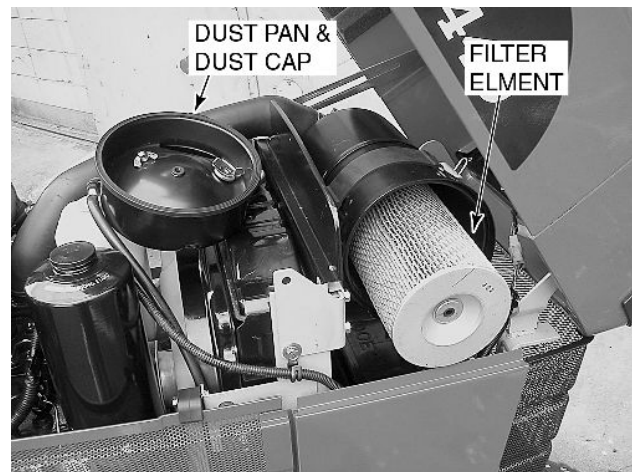

Figure 54 - Air Cleaner—Disassembled
Checking element : Check the air cleaner element and dust pan for cleanliness, daily or every 10 hours, Figure 54.
The air cleaner contains two elements: an outer primary element and an inner safety element. To remove the primary element, push in on the end cap and rotate counterclockwise. Remove the end cap from the air cleaner body to expose the primary element, Figure 54.
1. Loosen the mounting nut and remove the dust cap, Figure 54.
2. Remove the seal and dust pan from the dust cap and clean the dust cap, seal and dust pan using a damp lint free cloth, Figure 54.
NOTE: For maximum engine protection and air cleaner service life, install a new inner safety element, Figure 54, every third primary element change or after every 1000 hours of operation, whichever comes first.